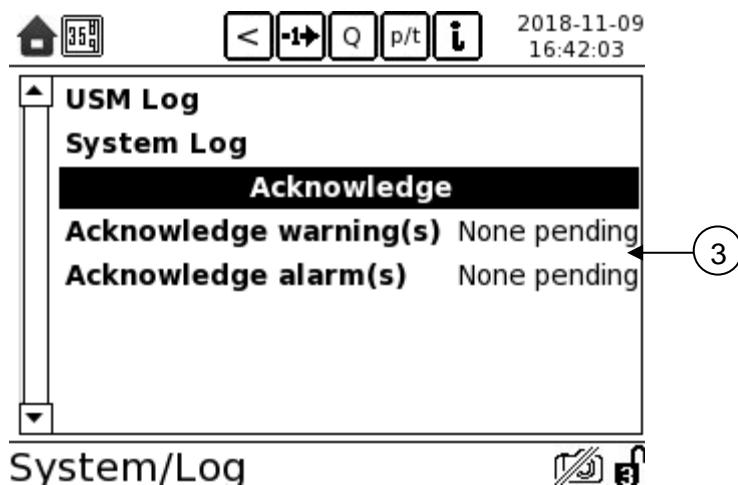

Fig. 50 Acknowledgement prompt
- Confirm the prompt (2) (Fig. 50)